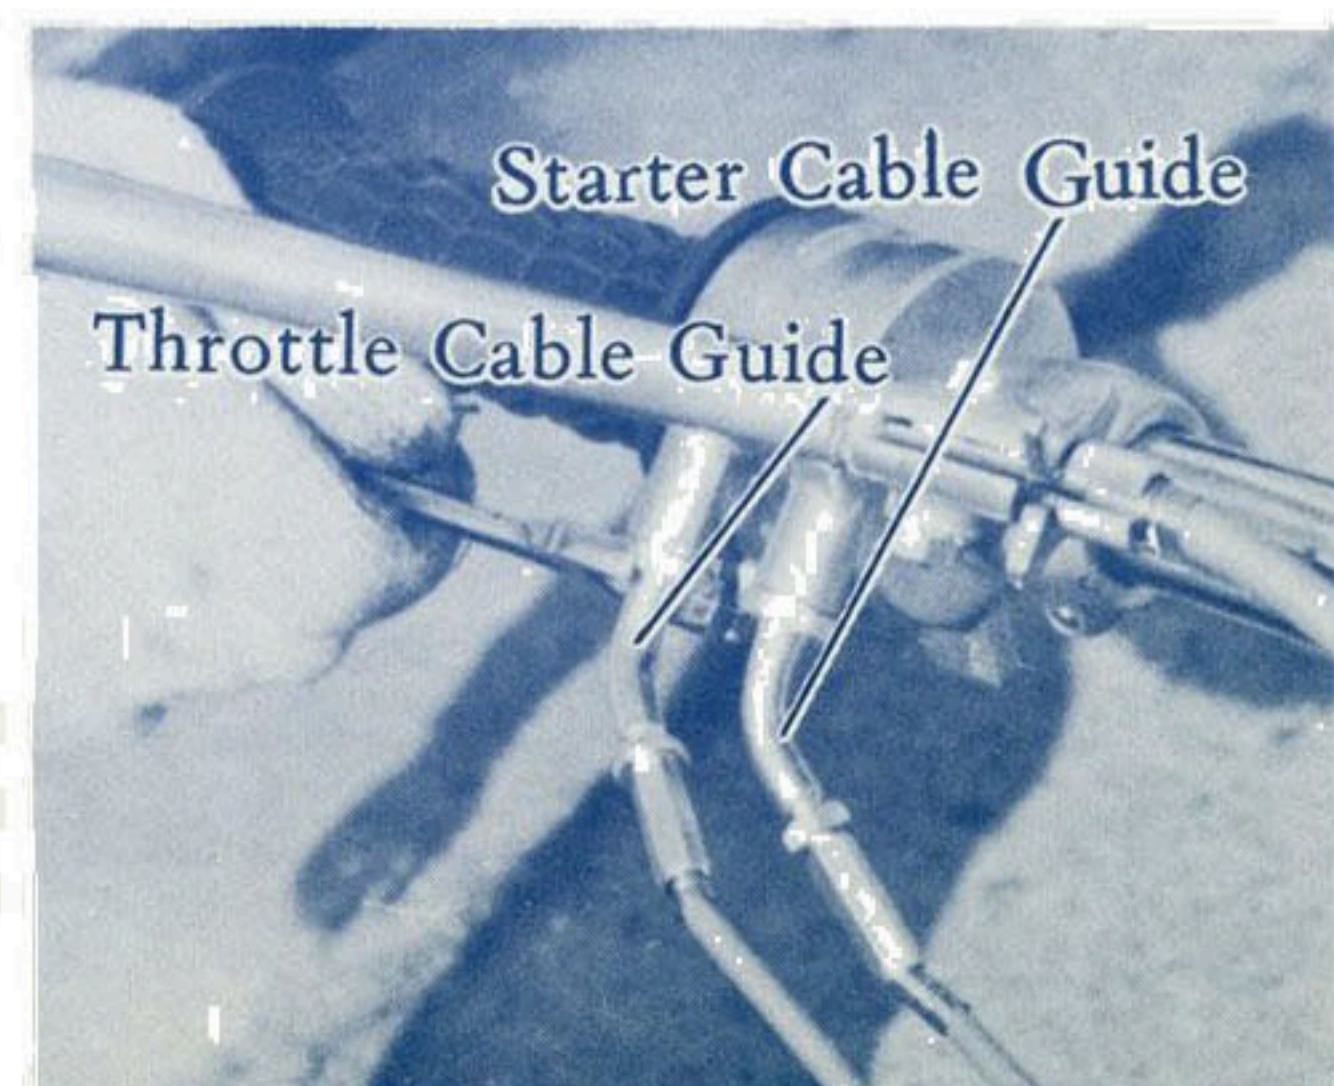

Fig. 13
3. Screw in throttle cable guide and starter cable guide, and tighten the lock nuts as shown in fig. 13.